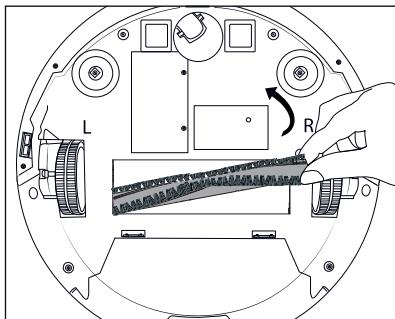

Fig. 15
- ♦ Grasp the rotary brush 16 on the right-hand side, and remove it from the appliance (see Fig. 15). Remove hair and dirt with the cleaning brush 10.